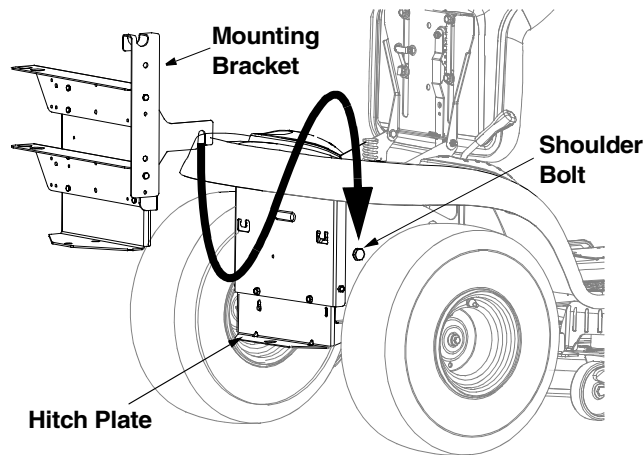

Figure 2
- Position the hooked ends of the bracket assembly to the outside of the hitch plate and over the shoulder bolts. See Figure 2.